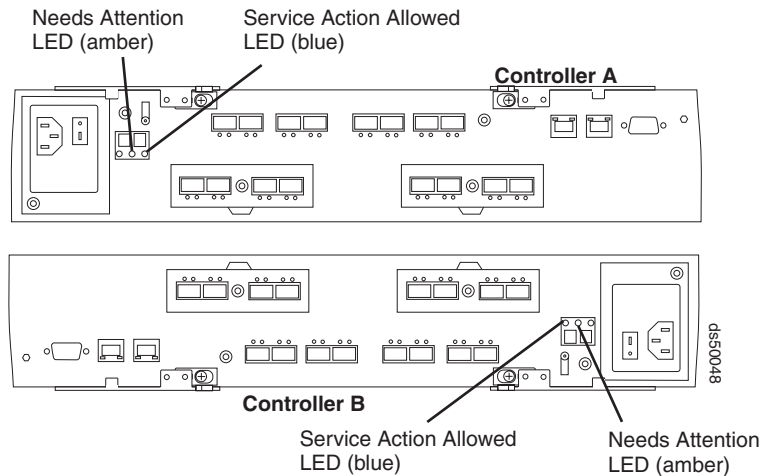

Figure 119. RAID controller Needs Attention and Service Action Allowed LEDs
- Replacing a failed controller, locate the failed controller by checking the Needs Attention status LEDs on the controllers in the storage subsystem (see Figure 119 on page 194). Skip to step 5 on page 194.
Figure 119 shows the location of the Service Action Allowed status LED on the back of a controller.